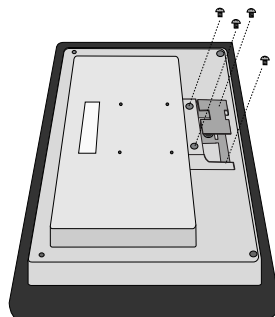

Figure R.2
4. Remove the 4 screws connecting the monitor to the stand and remove the metal plate (**Figure R.2**).